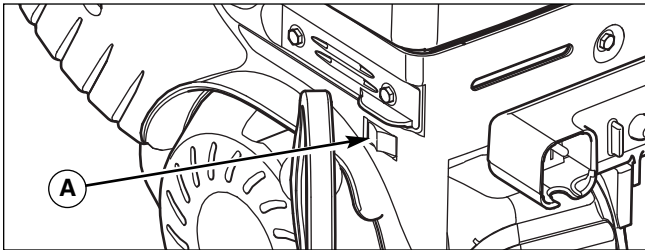

Figure 3. On/Stop Switch
3. Push the stop switch to the on position (A, Figure 3).